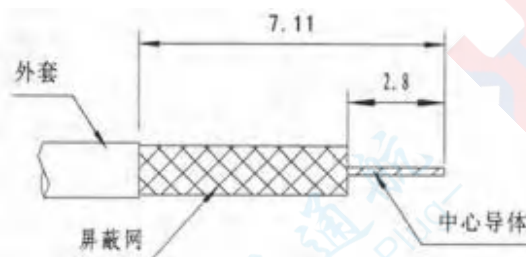

图15
① Strip the cable as shown in Figure 15. The end must be cut clean and perpendicular to the cable's axial plane. The cable must not be deformed during cutting.